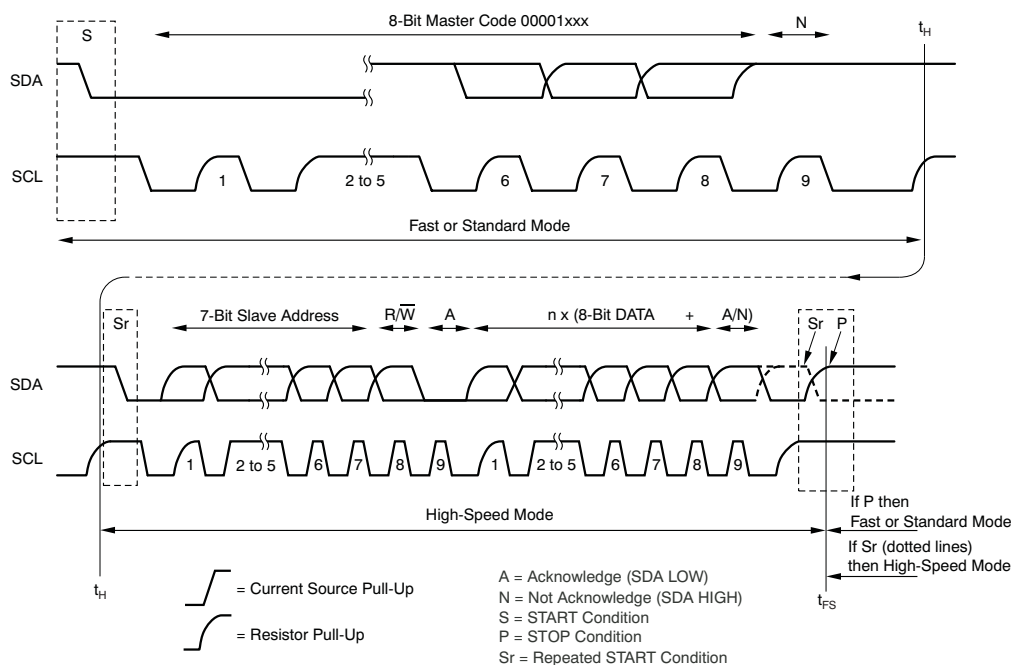

Figure 30. Complete High-Speed Mode Transfer
When the bus master sends the address byte with the $\text{R}/\overline{\text{W}}$ bit = 0, and the TSC2007 sends an acknowledge, the pen-interrupt function is disabled. If the command that follows the address byte contains $\text{PD0} = 0$, then the pen-interrupt function is enabled at the end of a conversion. This action is approximately 100 μs (12-bit mode) or 50 μs (8-bit mode) after the TSC2007 receives a STOP/START condition, following the receipt of a command byte (see Figure 31 and Figure 30 for further details about when the conversion cycle begins).
1. START condition (S)
3. Not-acknowledge bit (N)
Figure 30 shows this sequence in more detail. Hs-mode master codes are reserved 8-bit codes used only for triggering Hs mode, and are not to be used for slave addressing or any other purpose. The master code indicates to other devices that an Hs-mode transfer is about to begin and the connected devices must meet the Hs mode specification. Because no device is allowed to acknowledge the master code, the master code is followed by a not-acknowledge bit (N).
After the not-acknowledge bit (N) and SCL have been pulled-up to a HIGH level, the master switches to Hs-mode and enables the current-source pull-up circuit for SCL (at time t_H shown in Figure 30). Because other devices can delay the serial transfer before t_H by stretching the LOW period of SCL, the master enables the current-source pull-up circuit when all devices have released SCL, and SCL has reached a HIGH level, thus speeding up the last part of the rise time of the SCL.